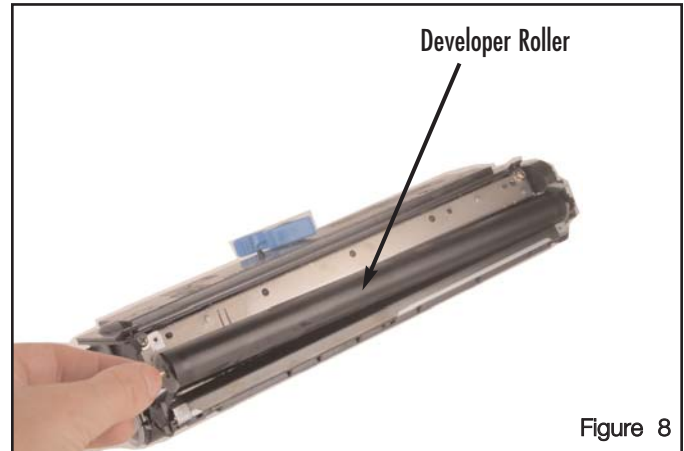

Figure 8
- a. Grasp the developer roller by the metal shaft on the contact end and lift out of the hopper, with the two white plastic shims on both ends (Figure 8). Place on a dry, lint free cloth.